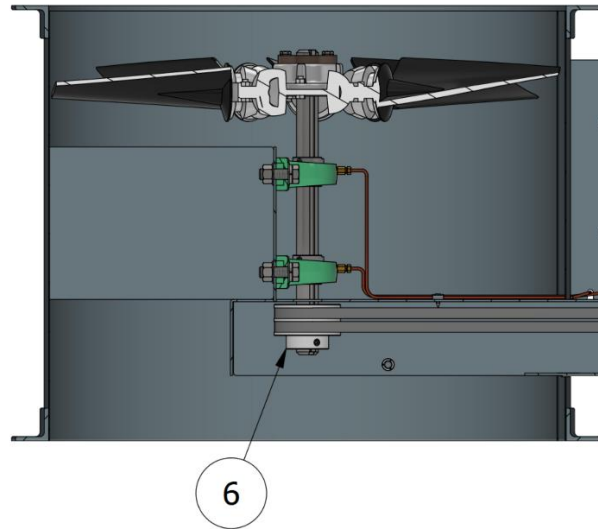

Figure 6 - Section View of Fan Housing
- Loosen the set screw on the fan blade pulley in Figure 6.